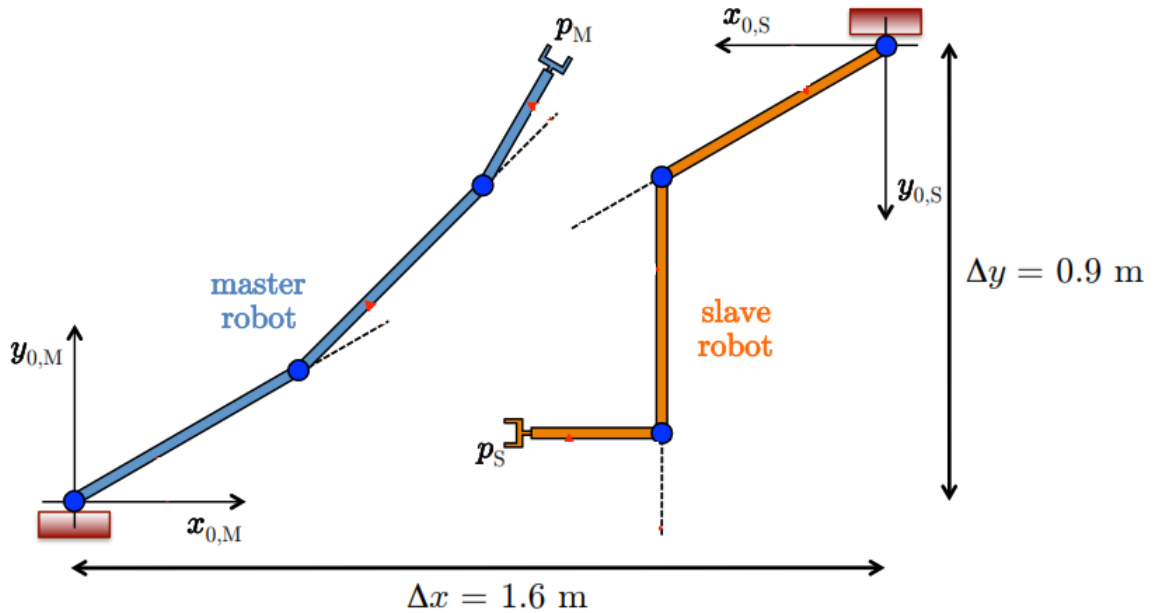

Figure 1: Relative positioning of two 3R primary and secondary robots
Problem 1 Consider the two robot setup of Figure 1 comprising of two identical planar 3R robot manipulators. In this setup, M is the primary robot and S is the secondary robot. In this problem, 100 points
- The base frames of the two robots are displaced by $(\Delta x, \Delta y, 0) = (1.6, 0.9, 0)$ m, and the frames are rotated by 180° relative to each other as shown in Figure 1. The z_0 is coming out of the page for both frames;